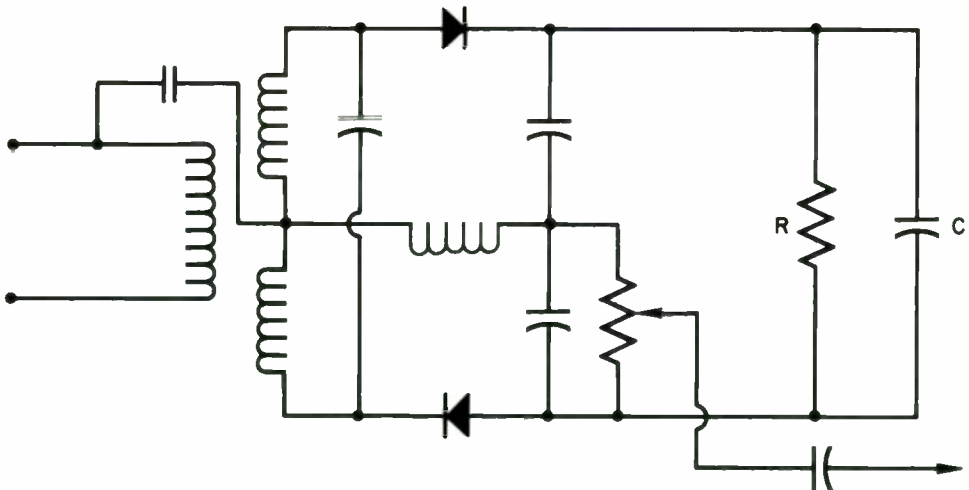

Figure 12 - One practical ratio detector circuit.
with a capacitor (C) that will become charged to a selected maximum voltage. This maximum voltage is determined by the circuit designer (Fig. 12). He establishes the value of the voltage that he wants to maintain across the capacitor by placing a resistor in parallel with it. The resistor will establish a current flow through itself, thus establishing the constant voltage available across the capacitor.